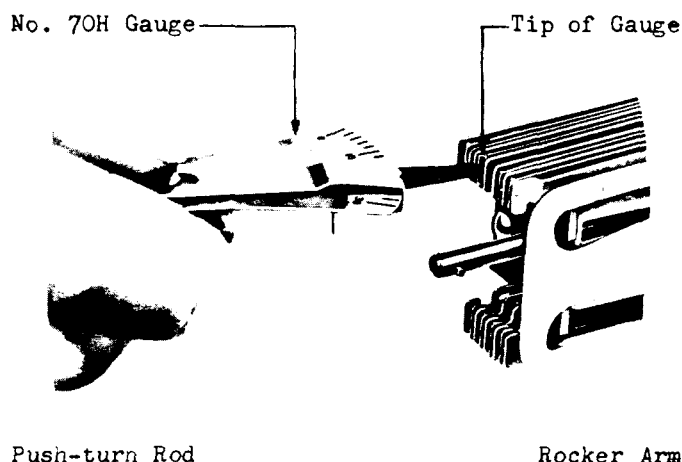
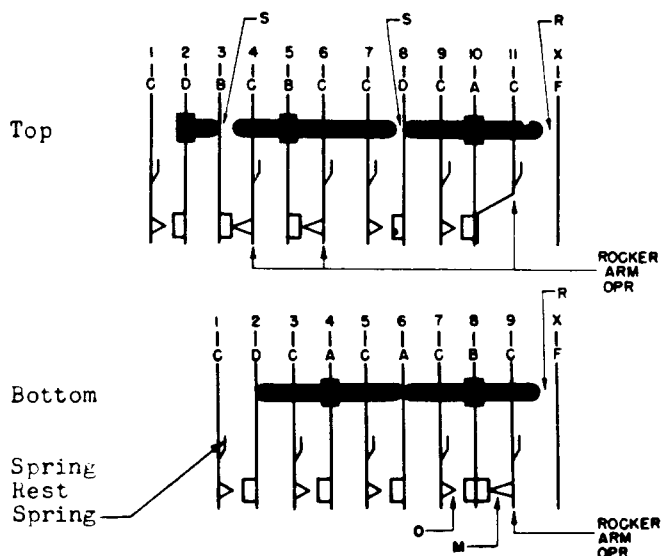
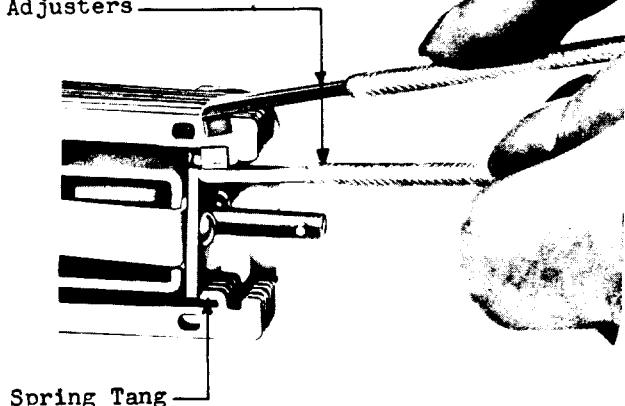

Fig. 5 - Method of Checking Spring Tension
Fig. 7 - Spring Combination - No. 580A Key
Fig. 11 - Method of Adjusting Spring Tangs
Min. .015" Gauge by eye. The thickness of the No. 2 spring (top or bottom) of the spring combination shown in Fig. 7 is .013"
(a) All springs shall be tensioned toward the rocker arm. The tension of each spring measured in grams shall be in accordance with the information given in Fig. 7. Unless otherwise specified or unless the abbreviation "Rocker Arm Opr." is shown associated with an arrow mark leading to a spring
in Fig. 7, the tensions shall be measured with the rocker arm in the normal position. A spring tensioned against the spring rest, rocker arm or stud shall register the required tension just as the spring leaves the spring rest, rocker arm or stud. A spring whose contacts are tensioned against the contacts of an opposing spring shall register the required tension just as the contacts break. Use the No. 70J or 70H gauge to check the tension. The tension of all springs having contacts shall be measured in front of the contacts. Apply the gauge so that the tip of the gauge engages both prongs of the bifurcated springs as indicated in Fig. 5. When gauging tension on solid springs apply the tip of the gauge near the front end of the spring just in front of the contacts.
2.13 Stud Gap: With the key in the normal position there shall be a clearance between the stud and spring, at points marked "R" and "S" in Fig. 7. Gauge by eye.
Gauge by eye. The thickness of the No. 2 spring (top or bottom) of the spring combination shown in Fig. 7 is .013".
Exception: The contact follow for normally open springs 1 and 2 top shown in Fig. 7 shall be
2.16 Contact Sequence - Fig. 7
(1) To adjust for the "R" stud gaps (Fig. 7) adjust the end of the rocker arm which rests against the "F" springs with the No. 485A pliers. Adjust for the "S" stud gaps (Fig. 7) by adjusting the spring tang of the associated spring controlling the gap. Adjust the tang to the right or left as required, using the No. 507A spring adjuster, while holding the spring with another No. 507A spring adjuster as shown in Fig. 11. It is satisfactory if, in making this adjustment, the spring tang does not rest flat against the spring rest. Exercise care however to see that requirement 2.09 covering spring tang position is met.
(2) To correct the contact separation, adjust the moving springs with a No. 505A or No. 506A spring adjuster, using the No. 505A adjuster whenever possible or adjust the spring tang of the springs which rest against the spring rest as outlined in (1).